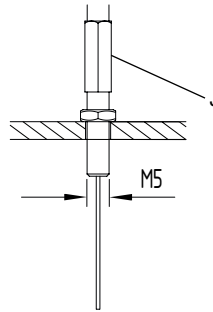

Figure 9
- Supplied M5 set screw J for attachment at end of hose (see fig. 9).